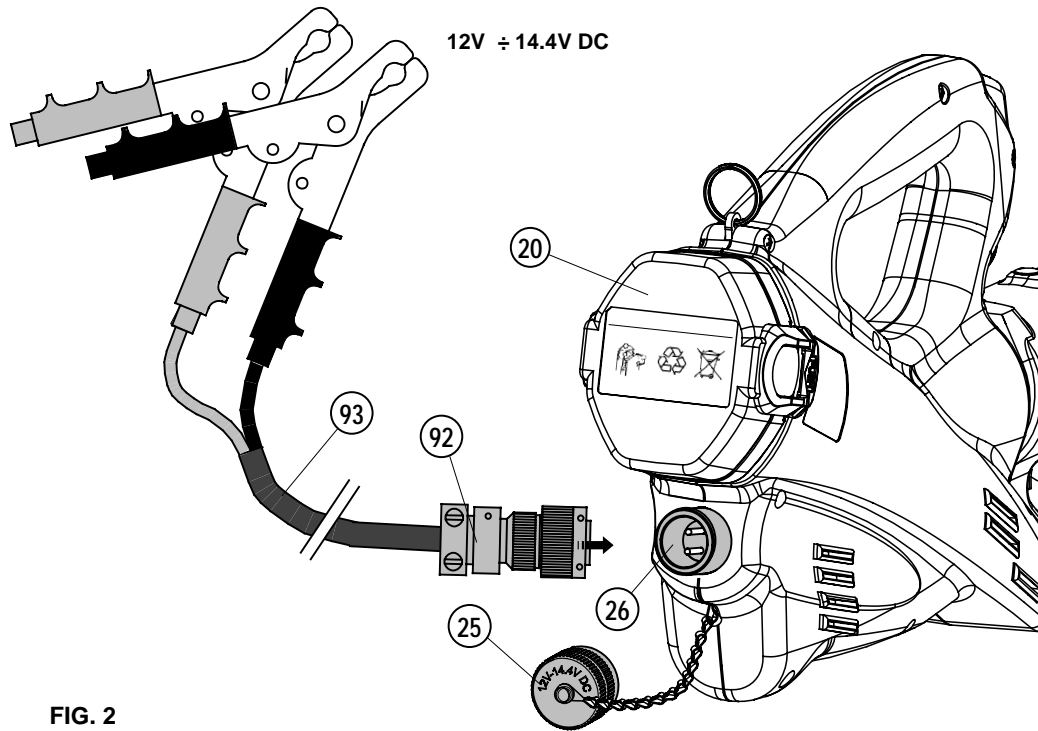

FIG. 2
2.7) Power from an external source (Ref. to Fig. 2)